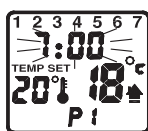

Figure 13
- Use the button to set the time forward. Use the button to set time back. Each press will make a 10-minute different. If the start time did not require changing, press the button to move to the temperature set. (Figure 13)